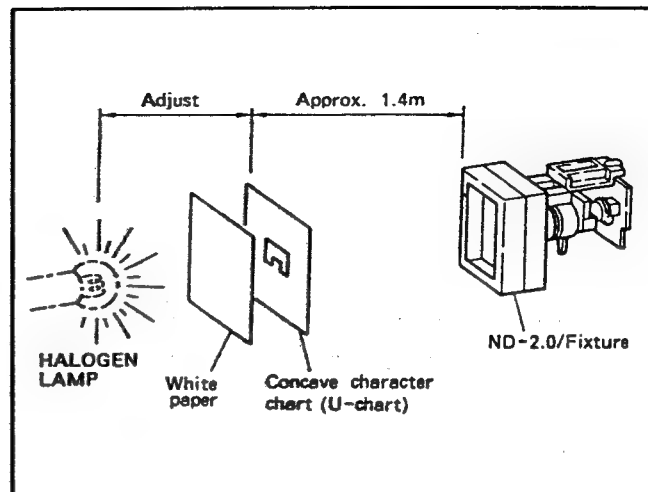

Fig. II-88
- (3) prepare a U-pattern chart with a white paper attached on its rear side.
- (4) Make setting as shown in the Fig. II-88.
- (5) Shoot the U-pattern chart with the standard angle of view.
- (6) Locate the halogen lamp so that the signal level at TP1101 becomes 300 mV.